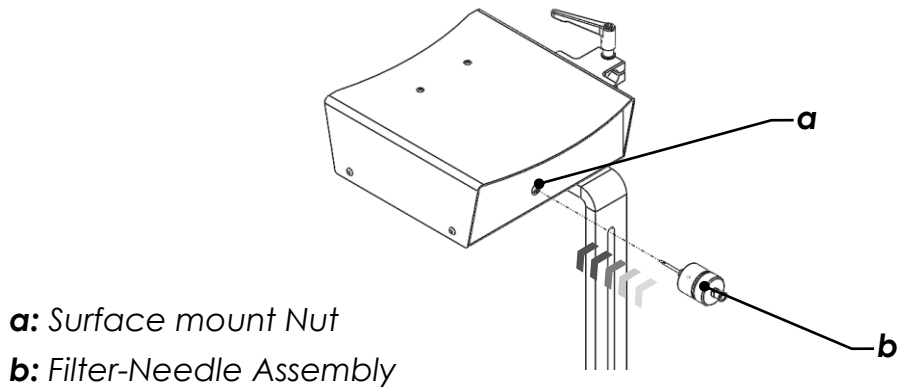

Figure 11
- Fasten the Filter-Needle assembly into the nut devised on the ink system (see Figure 11).
- Unscrew the plastic tube cap located on back side of the print-head (see Figure 11).